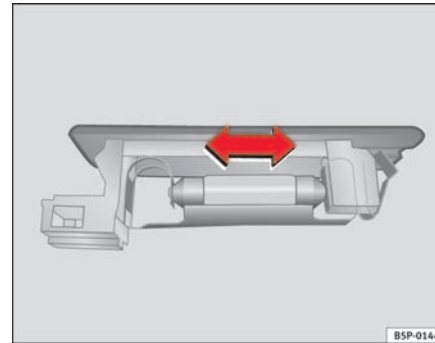

Fig. 189 Luggage compartment light
- Press the lamp sideways and remove it from the allotment ⇒ fig. 189. ■